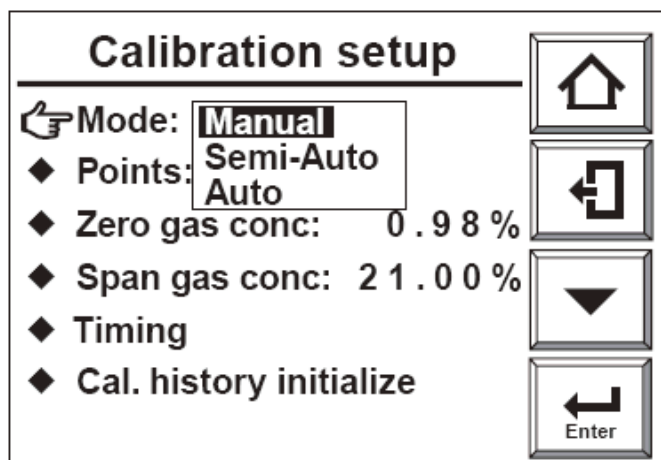

Figure 7.1 Calibration Mode Setting
- 2) From the [Maintenance] display, select [CalibrationSetup] the [Mode] and you can select Manual, Semi-Auto, or Auto in the selection drop down that appears. Figure 7.1.